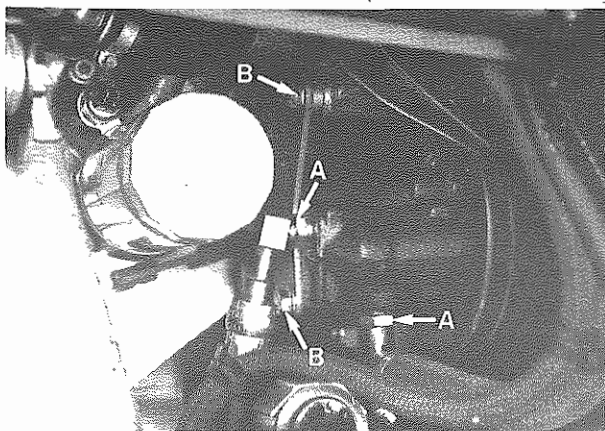

Fig. 13 - A - Raccordi tubi olio
- Staccare i raccordi tubi olio sul corpo pompa (**Fig. 13**). Chiudere i raccordi con cappucci parapolvere.
- Disconnect oil pipes connectors from pump body (**Fig. 13**). Close connectors with dust caps.